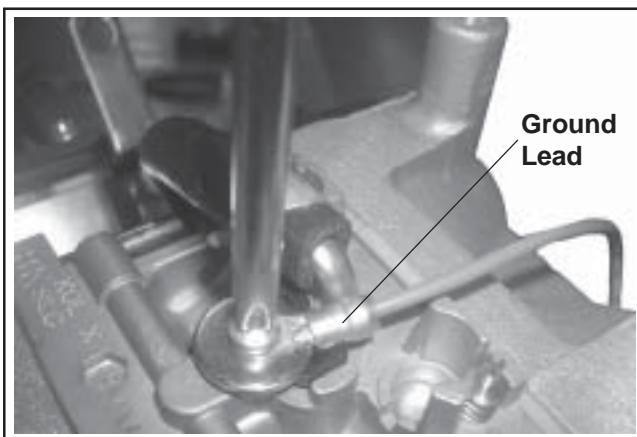

Figure 9-26. Remove Ground Lead (Two-Barrel Model Pictured).
1. Disconnect the fuel shut-off solenoid lead and ground lead, if equipped. See Figure 9-26.